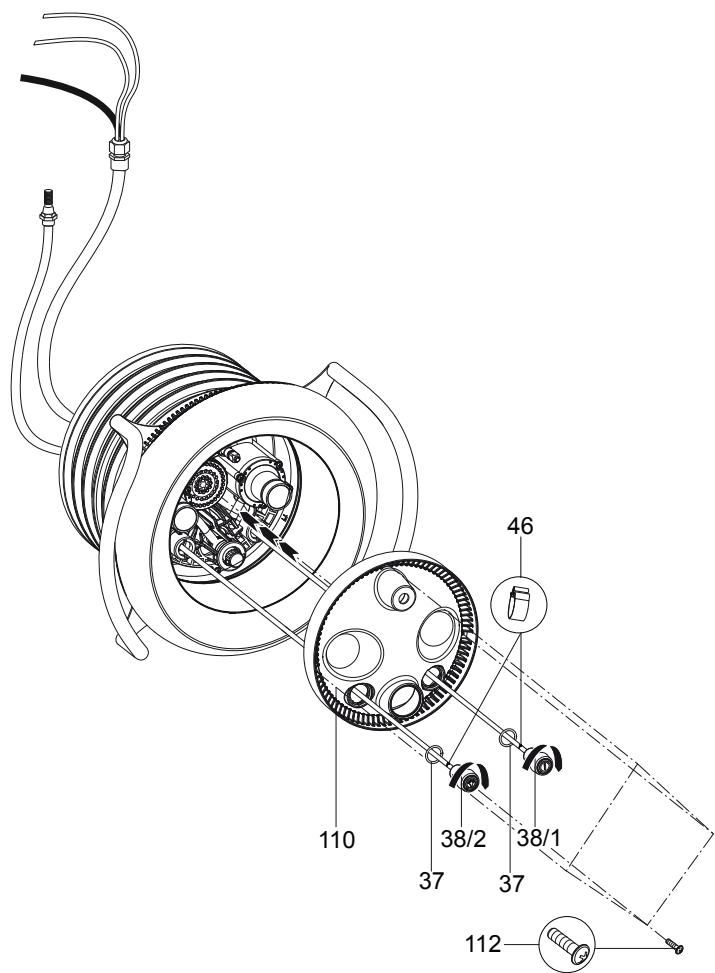

Figure 16
10. Guide the pneumatic hoses through the two (2) bottom openings of the light cover (part# 110). *NOTE: Light ON/OFF is on the left and the pump ON/OFF button is on the right.* Align the light cover with the nozzle housing and fasten with four (4) self tapping screws (part# 112). (See Figure 16)
11. Slide one (1) o-ring (part# 37) onto each pneumatic button. Fasten the pneumatic hoses to the corresponding buttons using the hose clamps (part# 48). Insert the two (2) pneumatic buttons through the light cover and into the nozzle housing and lock them by turning them clockwise.